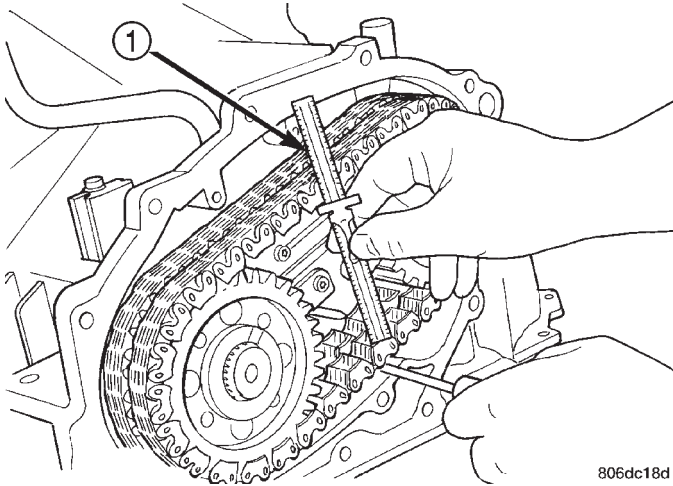

Fig. 442 Chains Measurement
- (5) Pry the chains up at the center of the chain.
- (6) Butt a scale against the snubber and place a second mark on the scale at the bottom of the chains (Fig. 442).